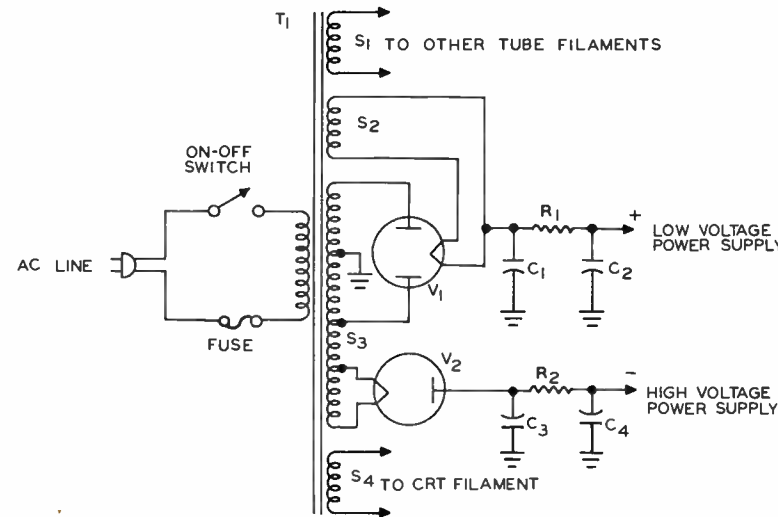

FIGURE 3
44. negative -- V_{12} is connected to provide a negative output voltage as explained for Figure 3. The slider of R_{33} is more negative than the junction of R_{31} and R_{32} , making the grid negative with respect to the cathode.